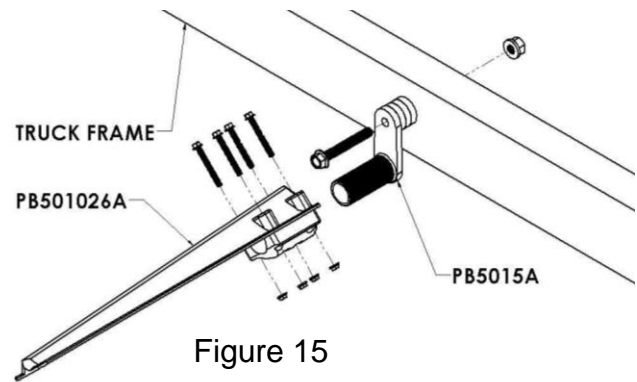

Figure 15
- A. Once the brackets are placed in position with the fender, tighten the 5/8" x 4-1/2" bolts that go through the PB5015 steel swivel to attach the swivel securely to the frame (Figure 15). **Recommended torque is 160-170 ft-lbs.**